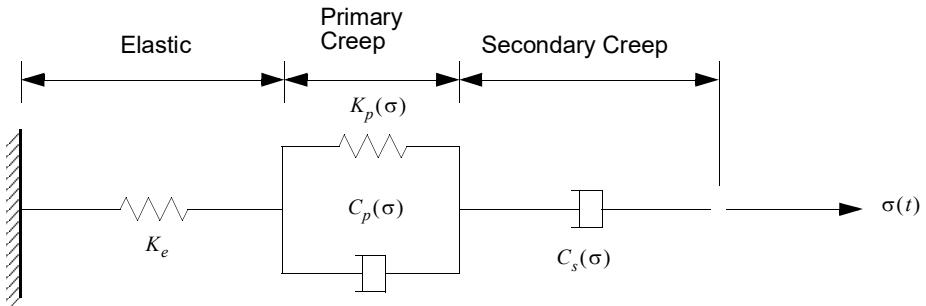

Figure 9-60 CREEP Parameter Idealization
3. Creep model parameters K_p , C_p , and C_s represent parameters of the uniaxial rheological model as shown in Figure 9-60.